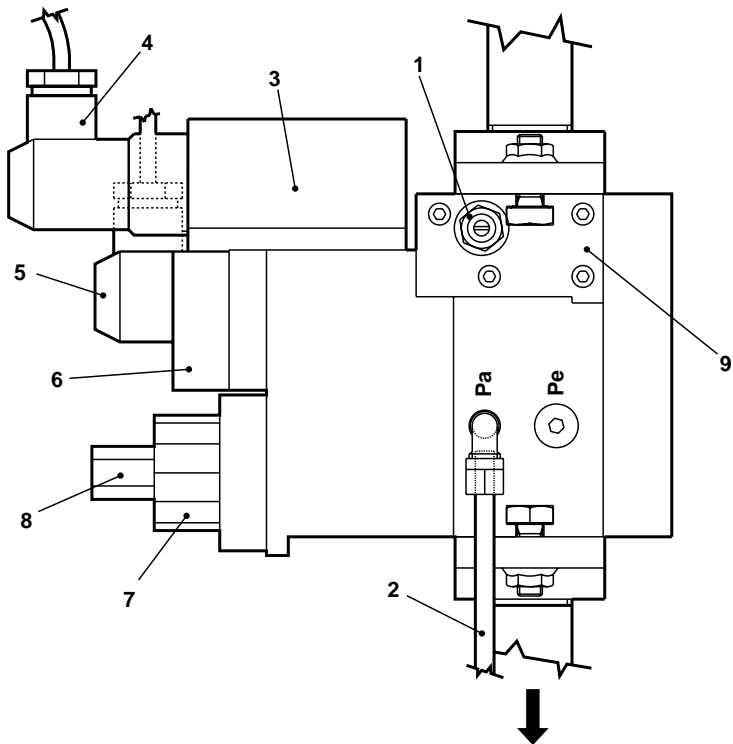

Fig. 8
- Disassemble the pilot burner (fig. 8).